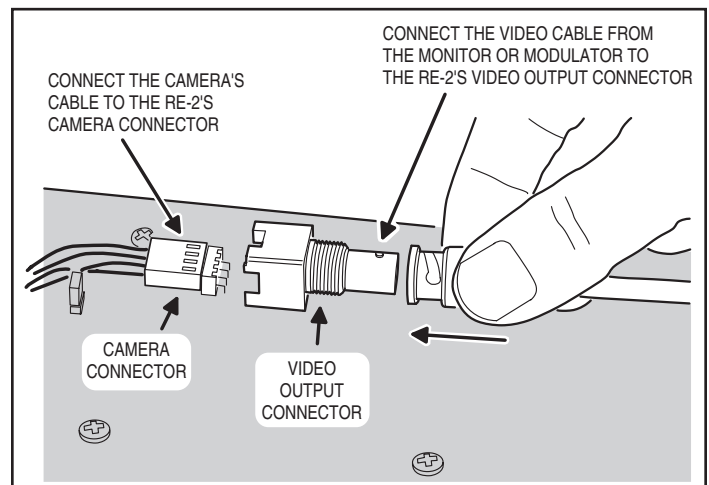

Figure 26. Connecting the Camera Cable and Video Cable
6. Connect the camera's 4-conductor cable to the RE-2's **CAMERA** connector (see Figure 26).
7. Connect the video cable to the RE-2's **VIDEO OUT** connector (see Figure 26).